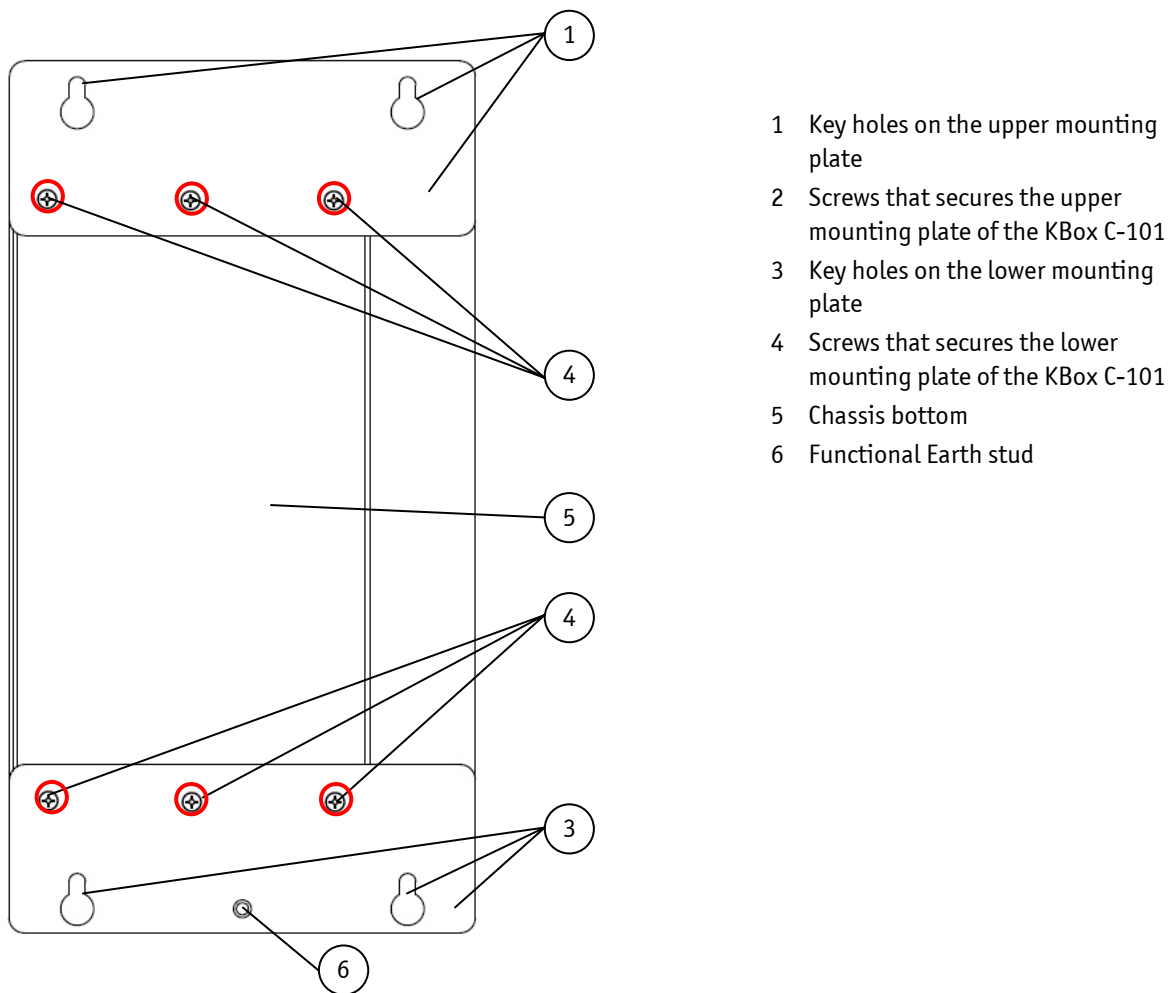

Fig. 26: Rear side of the KBox C-101 system
Please do not remove the screws marked with red (Fig. 26, pos. 2 and 4).
There is an M4 functional earth terminal on the lower mounting plate of the KBox C-101 (Fig. 26, pos. 6). This terminal may be connected as required.
The KBox C-101 with the stud marked with a "Functional Earth" symbol (Fig. 26) has to be grounded to an appropriate "common earth" connection point.